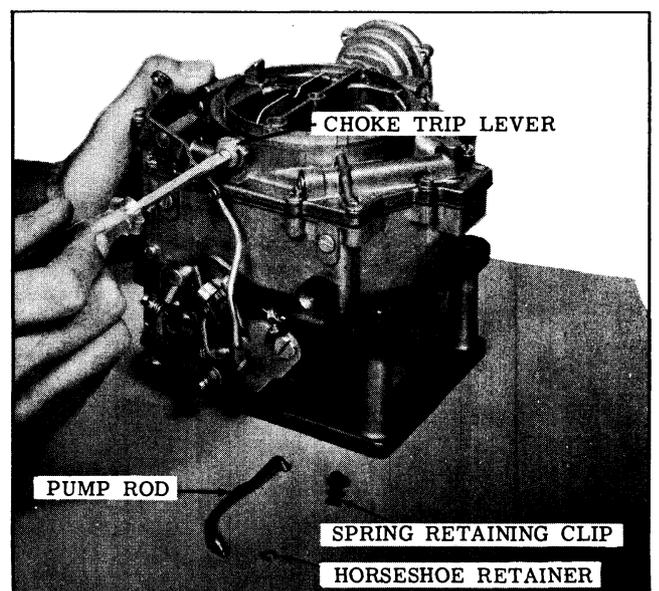

Fig. 8-87 Removing Trip Lever
6. Remove the small retainer screw holding the trip lever to the choke shaft, then remove the trip lever. (See Fig. 8-87)